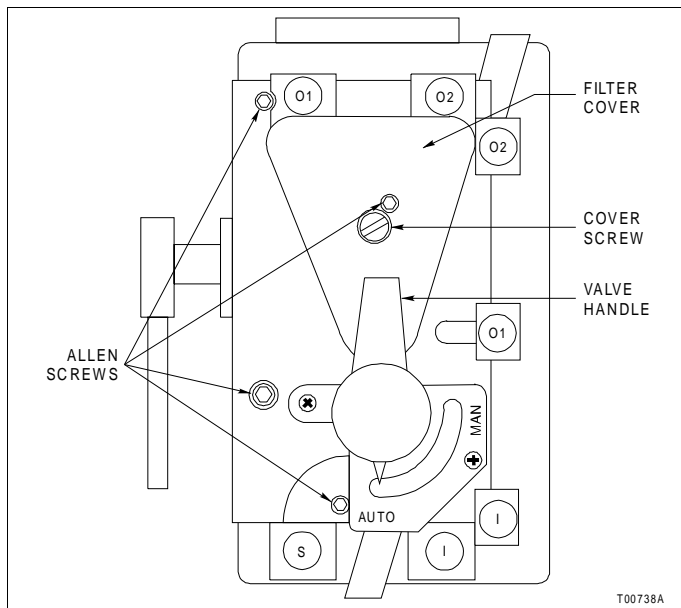

Figure 8-1. Type AV Positioner with Manifold
2. After allowing the pressure to bleed off, remove the cover screw securing the filter cover (Fig. 8-1) and set the cover screw and cover aside.
2. If equipped with equalizing valve, push in on the valve handle and move it to the MAN position (Fig. 8-1).
3. Remove four Allen screws securing the manifold (Fig. 8-1).